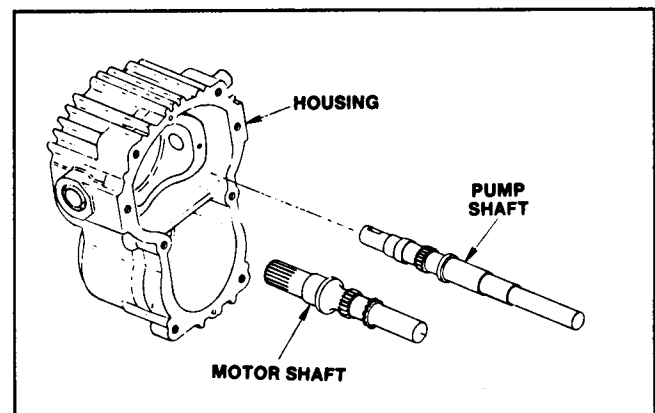

Figure 48
9. Guide the pump shaft through the center of the variable position swash plate and into the bearing previously installed into the transmission housing. Press the pump shaft into the bearing until it is fully seated (Fig. 48).
10. Press the motor shaft fully into the bearing previously installed into the transmission housing until it protrudes from .170 to .190 inch (4.3 - 4.8 mm) outside of the housing (Fig. 48).